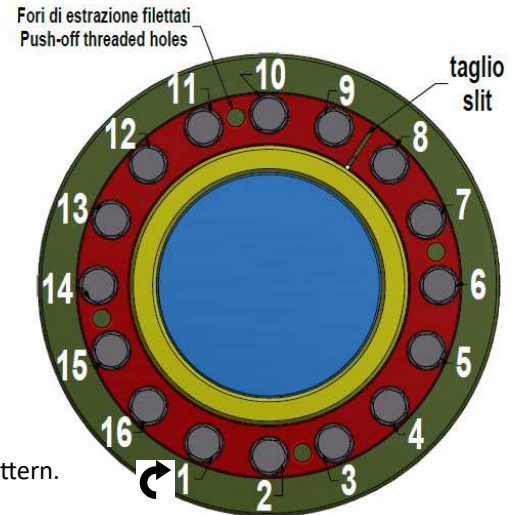

Fig. 4. Example of tightening pattern.
- Use a torque wrench set approx. 5% higher than specified tightening torque (Ma). **Progressively tighten the screws in either a clockwise or counterclockwise sequence, using approx. ¼ turns for several passes until ¼ turns can no longer be achieved (fig. 4).**